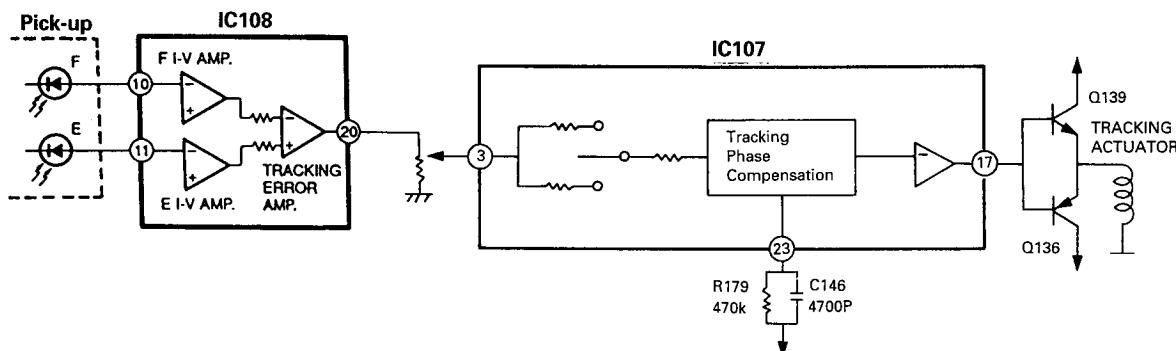

Fig. 6
- 1) Remove 3 screws (① to ③).
- 3) Remove 3 screws (④ to ⑥).
- 4) Turn to the clockwise gear loading of the assembly lock gear (see figure 6).
**4. Remove the loading table (Figure 6).**
When a tracking error signal is detected by photodiodes E and F, it is fed to pins 11 and 10 of IC108 respectively as shown in Fig. 6. In IC108, the signal is converted into voltage by the E I-V amplifier and F I-V amplifier, transmitted to the tracking error amplifier and output through pin 20. While it passes through IC107, in from pin 3 and out from pin 17, it is amplified in IC107 and sent to the tracking coil to adjust pickup so that the amount of track shift is reduced as closely to none as possible.